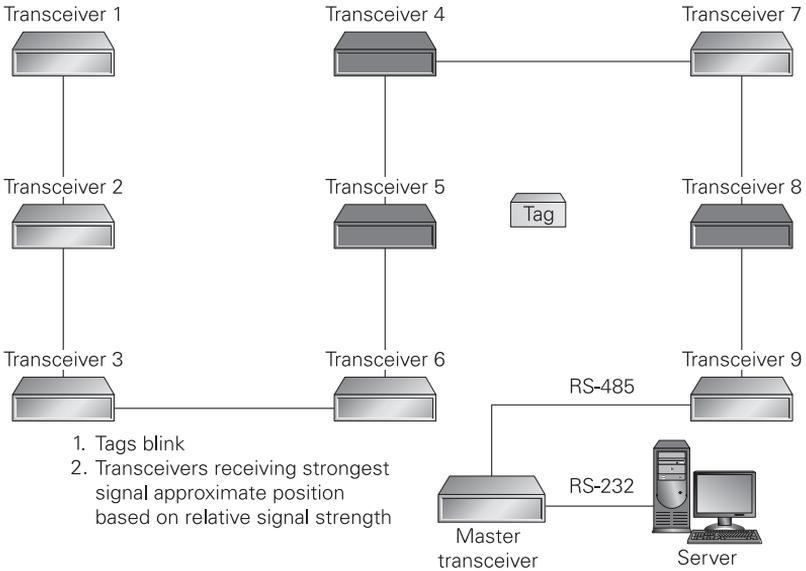

FIGURE 5.10 Amplitude triangulation system
- **Amplitude triangulation systems** (Figure 5-10) These systems use the signal strength of tags received by multiple receivers to determine an approximate location for the tag. The processor